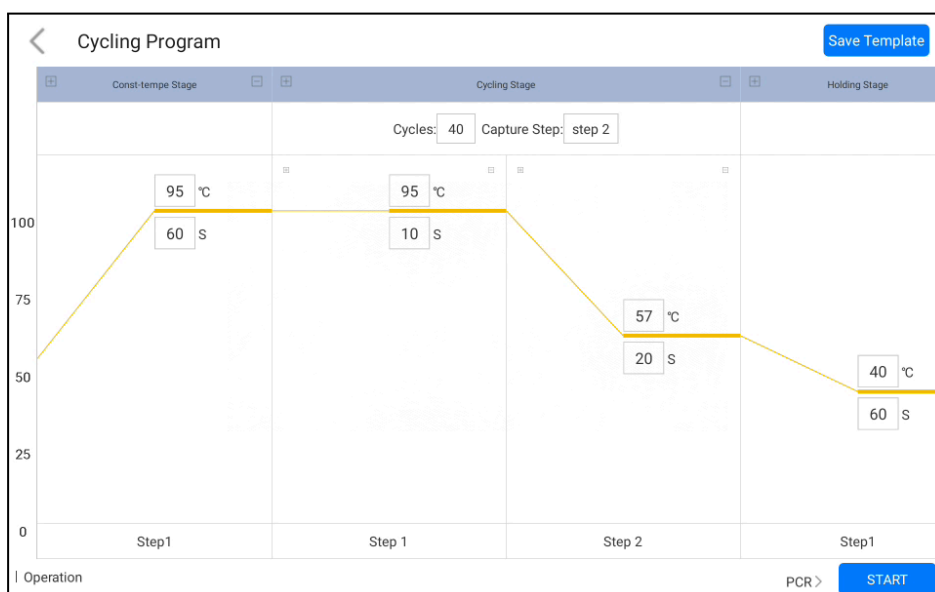

Figure 4.3. pixl™ Real-Time PCR Platform Cycling Program interface.
- 2) Cycling Program Interface (Figure 4.3) allows for thermocycling parameters to be programmed (parameters such as reaction temperature, reaction time, number of cycles, photo stage, etc.).